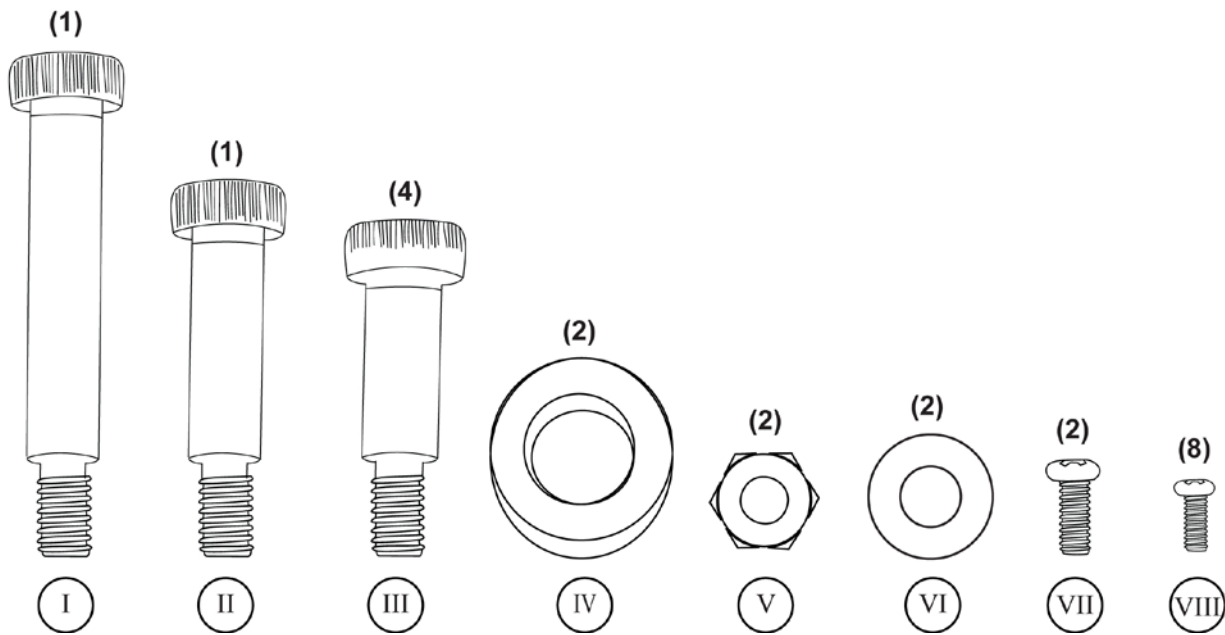

Figure 1
- (1) 4.5mm Allen wrench
- (2) Fork joints
- Hardware for assembly (see Figure 1)
Assembling the 2000KL Scale (Refer to Figures 1 - 12)
9. Locate the NC 3/8 – 20 x 2½” hexagon head screw (see Figure 1, Fastener “I”).
11. Locate the self lock nut (see Figure 1, Fastener “V”).
13. Locate the NC 3/8 – 20 x 1 ¾” hexagon head screw and self lock nut (see Figure 1, Fastener “II” and “V”).
22. Align the four mounting holes on the back of the display assembly with the four mounting holes in the display support. Fasten the display assembly onto the metal display support by using (4) Phillips pan head M4 screws (VIII). Use Phillips head screwdriver to tighten the screws (see Figures 1 & 9).
23. Place the pivot bracket screw covers over the pivot screws. Fasten the covers to the back of the display using (4) Phillips pan head M4 screws (VIII). Use Phillips head screwdriver to tighten the screws (see Figures 1 & 9).
27. Connect the lock rings (IV) onto the two hooks at the end of the lifter boom, using a screwdriver to tighten the set screws (see Figures 1 & 11).
29. Use the hexagon shoulder screws (III) to connect the two stretcher hoops to the load cell beam assembly and securely tighten. Make sure that the stretcher hooks face each other in the inward position, toward the stretcher canvas (see Figures 1 & 11).